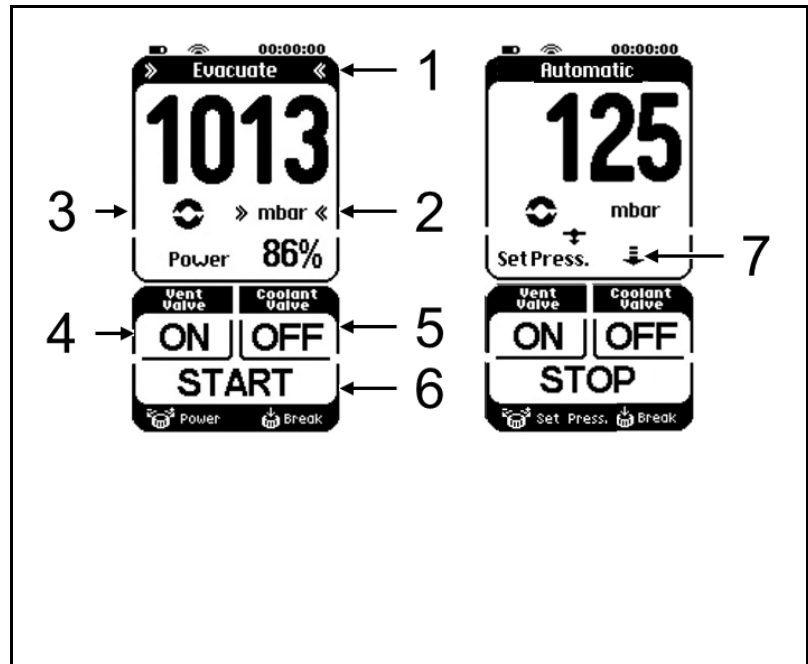

Fig. 11: Menus and buttons on the touchscreen
- Menu for selecting operating mode and units for pressure display (Fig. 11, page 33).
- Operating buttons (Fig. 11, page 33) with the following functions:
i If you press the arrow key (see Fig. 11/7) during automatic pressure reduction, the current pressure is applied as the new setpoint pressure and the vacuum pump system regulates to this pressure. The current setpoint pressure is shown in the display in place of the arrow.